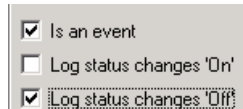

Figure 20. Event Generated Only When State Changes from On to Off
- Checking **Log status changes 'Off'** and NOT checking **Log status changes 'On'** will result in events only when the state changes from On to Off (falling edge), Figure 20.